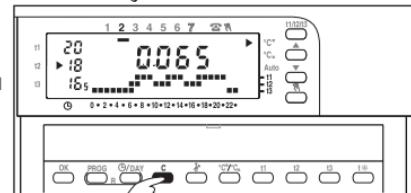

Fig. 41
- To display the total hours of operating from the beginning of the season: press **C** pressed for at least 4 seconds and the total hours of operating will appear (Fig. 41).